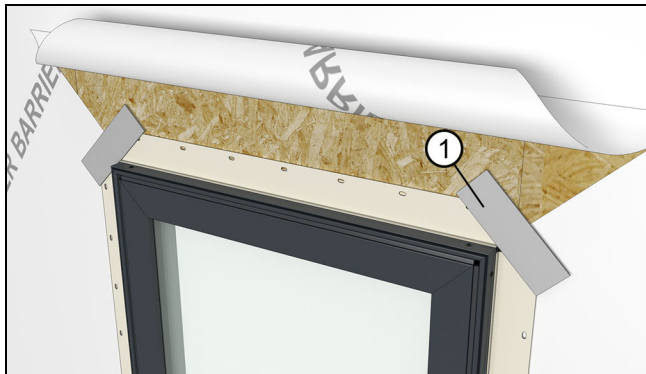

Figure 60
2. On units that use nailing fin, apply a 2" x 4" strip of flashing material at 45 degrees to the corner, bridging the gap between the nailing fin. Do this at all 4 corners. See Figure 60.